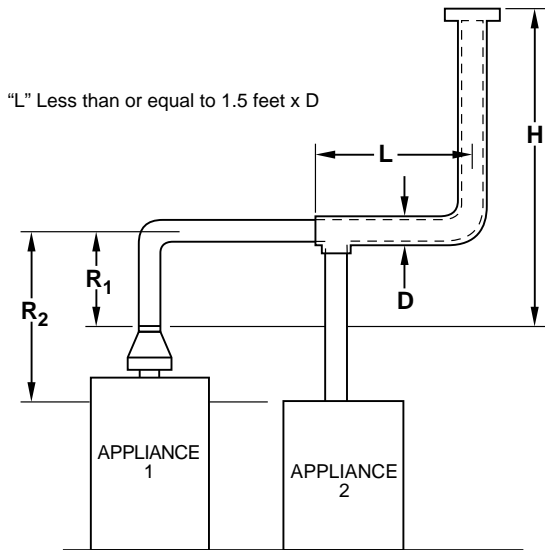

FIGURE 7
- 5) If vent connectors are combined prior to entering the common vent, the maximum common vent capacity listed in the common venting tables must be reduced by 10%, the equivalent of 1 (one) 90° elbow (0.90 x maximum common vent capacity). See Figure 7. The horizontal length of the common vent connector manifold (L) should not exceed 1-1/2 feet (18 inches) for each inch of common vent connector manifold diameter.